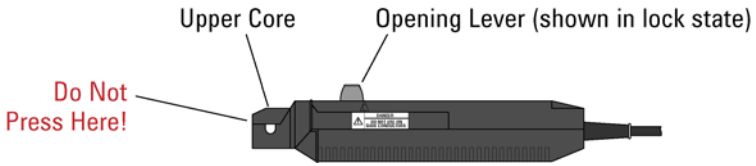

Figure 4 Use the Opening Lever
- 4 Using the probe’s opening lever, clamp the sensor head around the conductor to be measured as shown in Figure 4 on page 14.
- 4 Slide the probe sensor Opening Lever into the Locked position. Refer to Figure 4 on page 14 for the location of the lever.